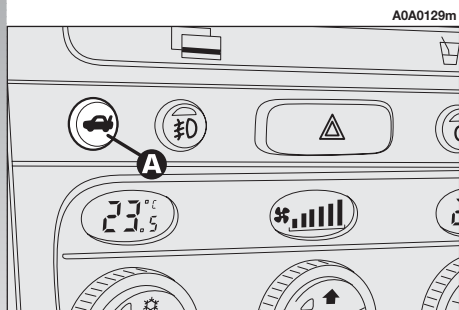

fig. 126
**from the inside of the door** - by depressing the button (A-fig. 126).
## OPENING FROM INSIDE (fig. 126)